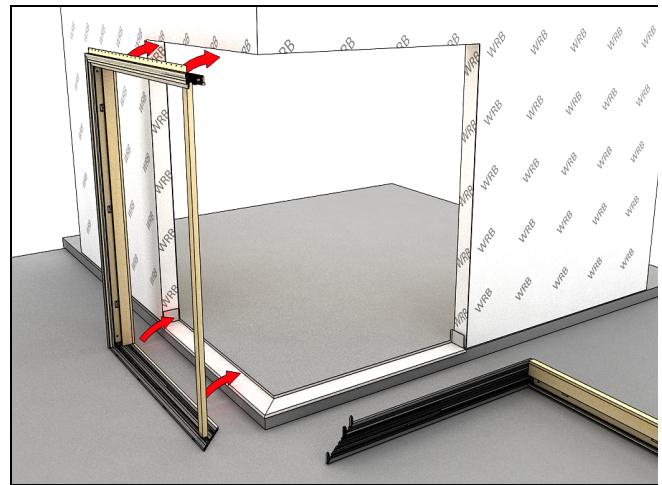

Figure 8
8. Stand one side of the frame upright in front of the rough opening. See Figure 8.